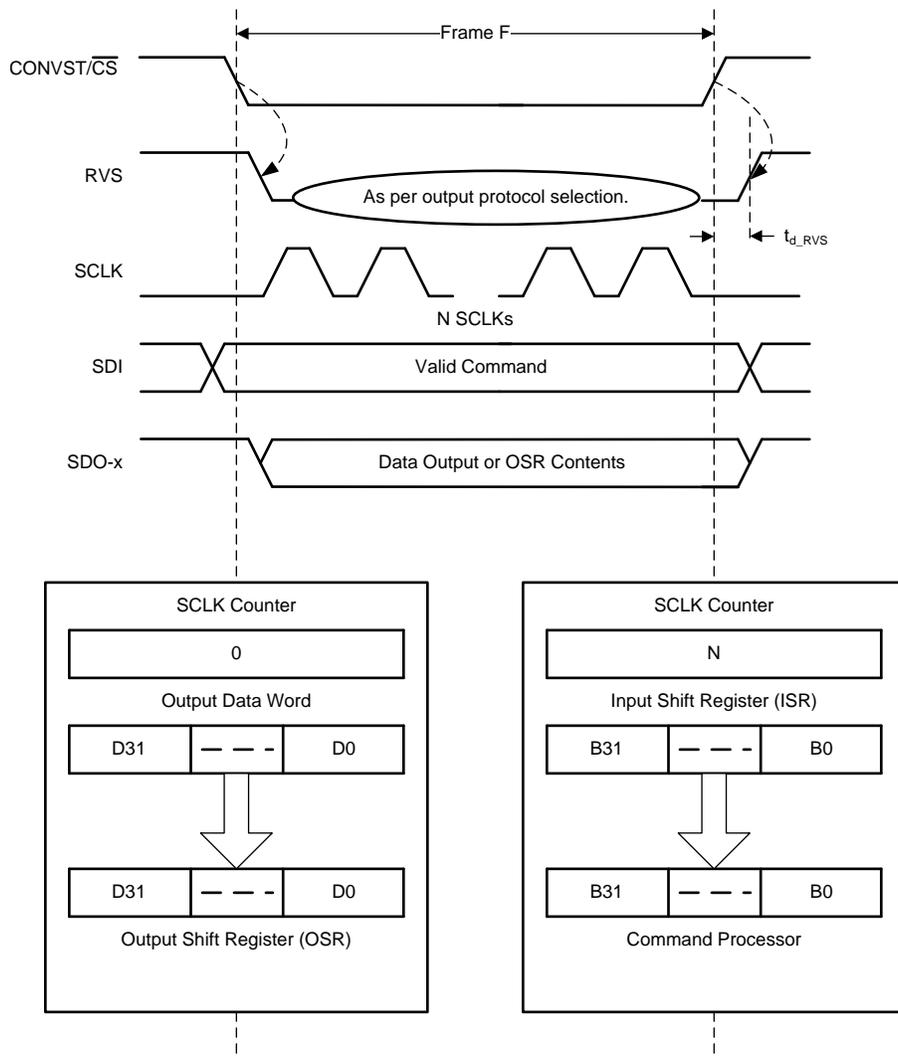

Figure 75. Data Transfer Frame
A data transfer frame between the device and the host controller begins at the falling edge of the CONVST/ $\overline{CS}$  pin and ends when the device starts conversion at the subsequent rising edge. The host controller can initiate a data transfer frame by bringing the CONVST/ $\overline{CS}$  signal low (as shown in Figure 75) after the end of the CONV phase, as described in the CONV State section.
- The device takes control of the data bus. As illustrated in Figure 75, the contents of the output data word are loaded into the 32-bit output shift register (OSR).
- As illustrated in Figure 75, the contents of the input shift register are transferred to the command processor for decoding and further action.